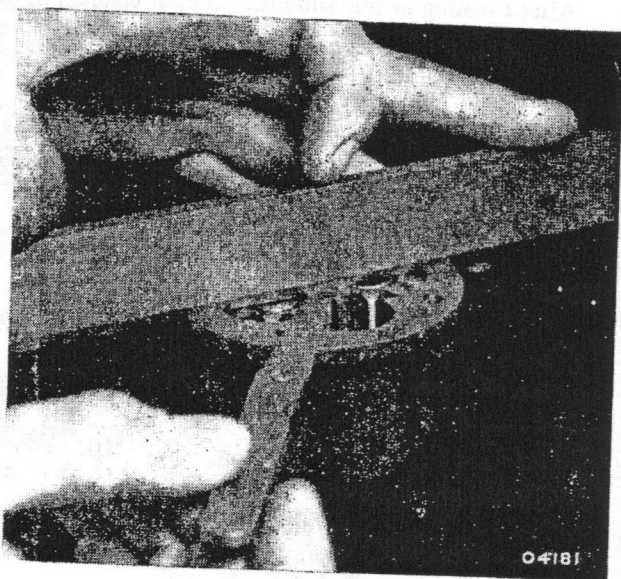

Fig. AAA.5
- (1) Measure the diametrical clearance between the teeth of the gears and the pump body. This should not be more than .006 in. (.15 mm.).
- (2) Check the end-float on the pump gears by placing a straight-edge across the face of the pump body and measuring the clearance with feelers, as shown in the illustration (Fig. AAA.5). This should not be more than .003 in. (.08 mm.).